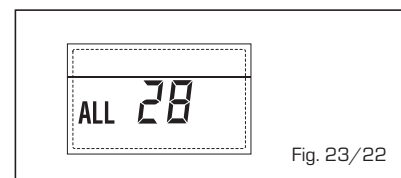

Fig. 23/22
- ANOMALY NUMBERS RELATED BOARD "ALL 29" (fig. 23/23)